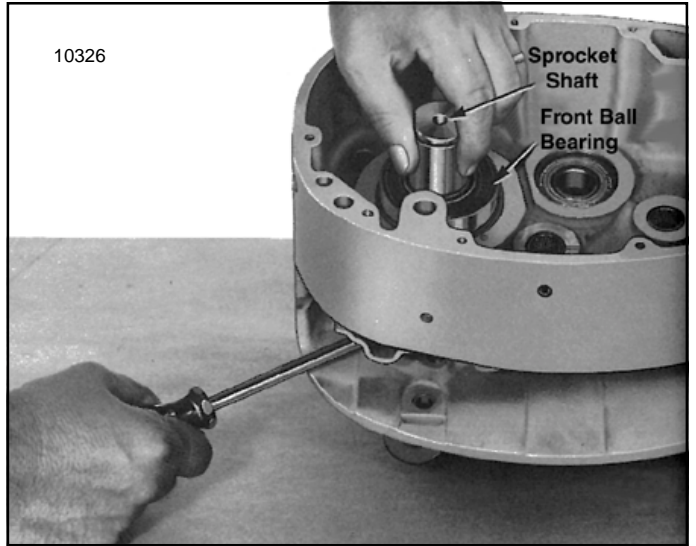
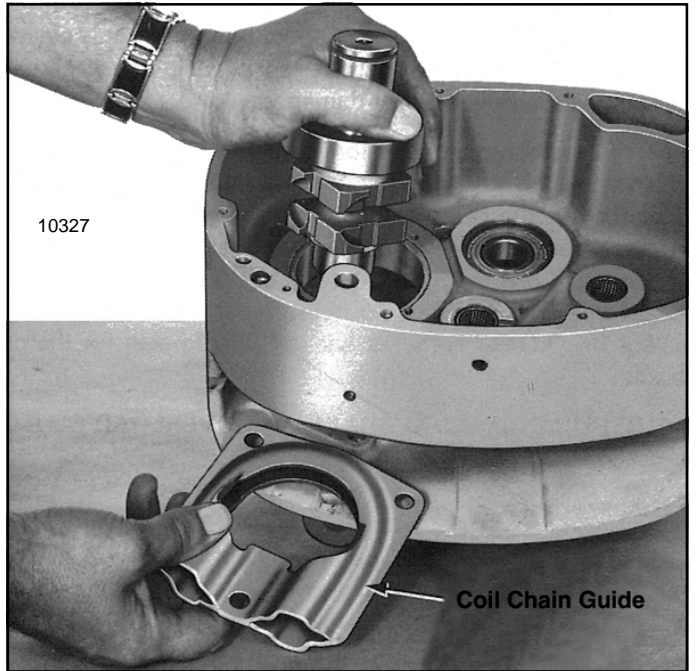

Figure 7-14. Removing Sprocket Shaft and Front Bearing
Figure 7-15. Chain Guide Being Removed from Frame as Sprocket Shaft is Lifted Out (Coil Chain Models)
(4) Remove sprocket shaft and front ball bearings assembly from frame by lifting up on end of shaft while prying up on sprocket as illustrated in figure 7-14. The chain guide will need to be repositioned in frame as sprocket shaft is raised to allow the sprocket to pass thru hole of guide (fig. 7-15). On roller chain model hoists, the chain stripper must be partly removed from guide by prying it out using screw driver or other suitable tool. See figures 7-16 and 7-17.